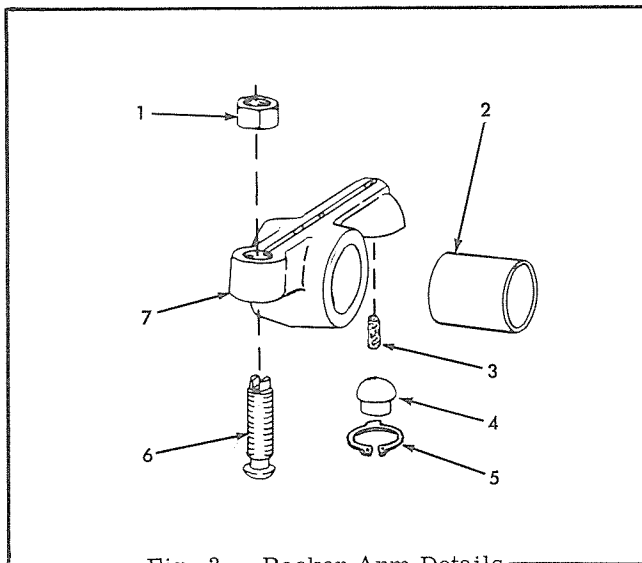

Fig. 3 - Rocker Arm Details
7. Remove snap ring, Fig. 3 (5), and ball (4) from each rocker arm. Inspect ball (4) for wear and replace if necessary. Inspect oiling wick (3) and if wick has become hard, replace it.